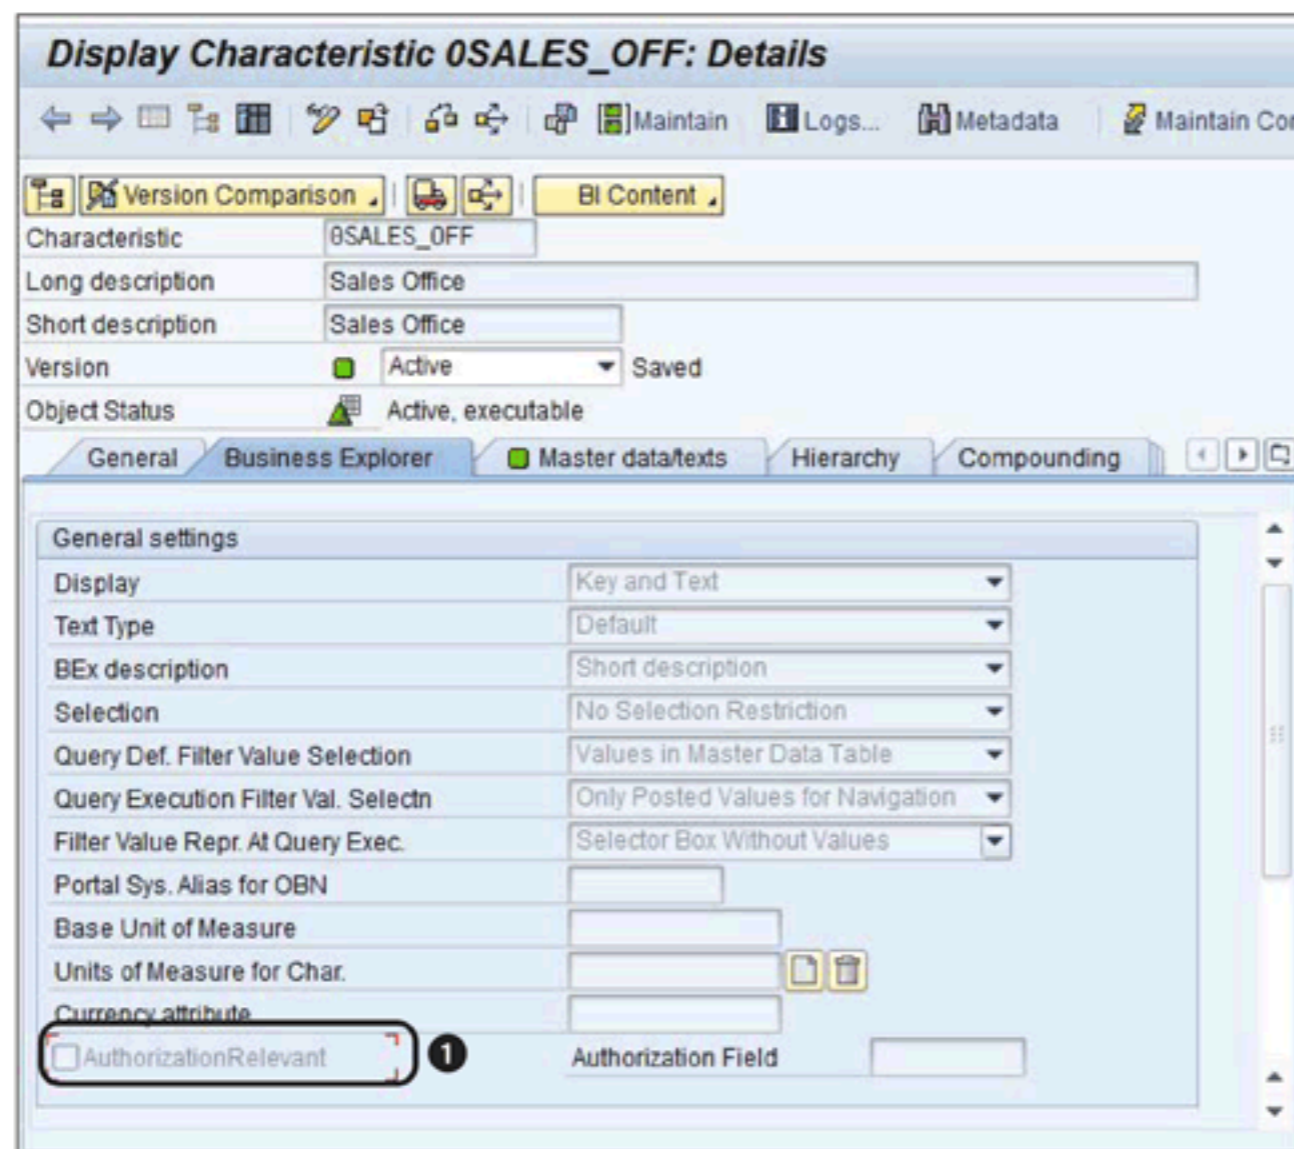

Figure 14.41 Authorization-Relevant InfoObject
The first step is to define the InfoObject as relevant for authorization. Use Transaction RSD1, and go to the InfoObject maintenance screen in the BUSINESS EXPLORER tab. Define the authorization-relevant characteristics. This will enable authorizations on characteristic values; for example, OSALES_OFF (❶ of Figure 14.41).